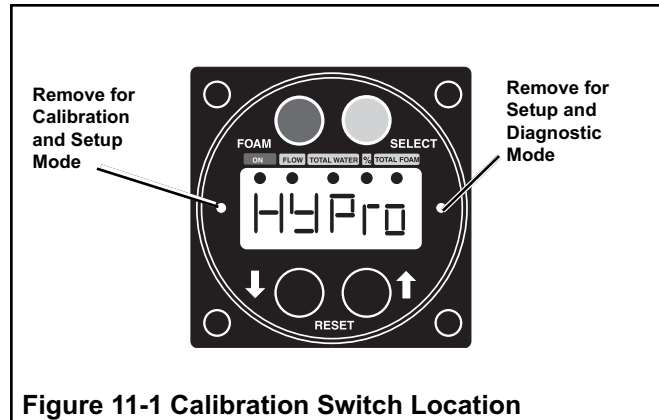

Figure 11-1 Calibration Switch Location
- Remove the Cover Screws and O-rings to enter the setup and diagnostic modes (See Figure 11-1).
Calibration and Setup is done by using the Digital Display Control Module function buttons. To enter or exit the Calibration and Setup Mode, use a 3/32" Allen wrench to remove the Cover Screw and O-ring to left of the Display Readout Panel on the Digital Display Control Module (See Figure 11-1).